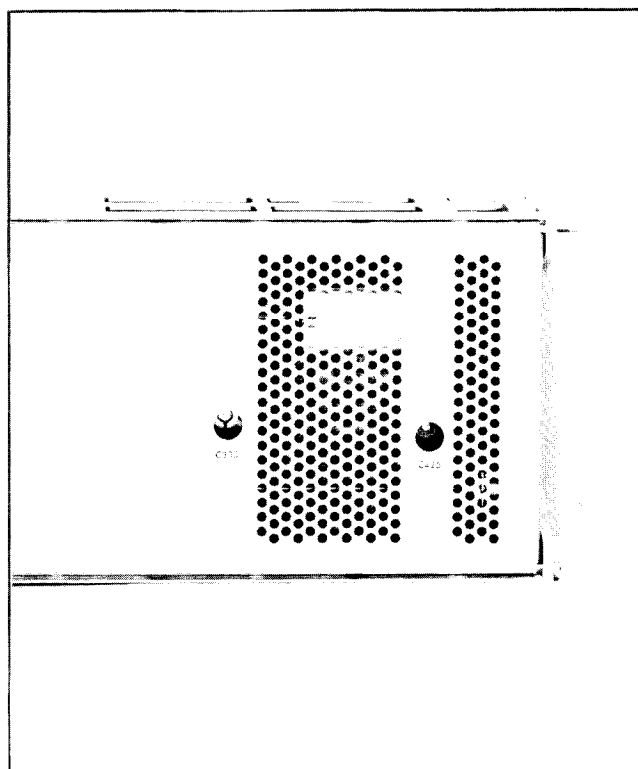

Fig. 5-8. Right side of Type 7A22 showing location of adjustments.
- ADJUST—With the frequency set to 1 MHz, adjust C425 for 4.2 div of display amplitude. See Fig. 5-8 for location of adjustment.
h. Adjust C330 (and C144 SN B080000 and up) for minimum vertical deflection. See Fig. 5-8 for C330 location. C144 is under the plastic cover near Q153 on the left side of the 7A22 (see Fig. 4-6, page 4-10).